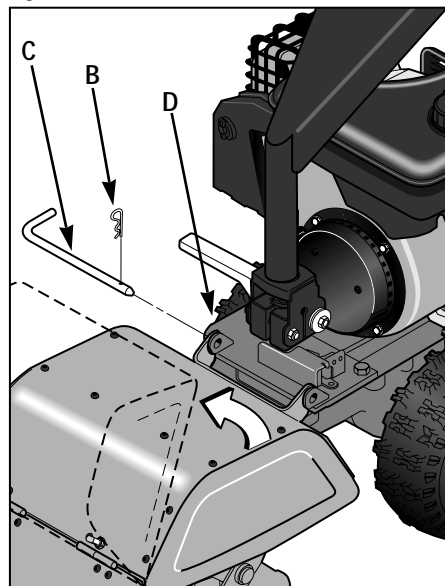

Fig. 4-7
6. Remove the hair pin clip (B, Fig. 4-7) from the hood release pin (C, Fig. 4-7). Slide the hood release pin out of the hood bracket (D, Fig. 4-7).
7. Lift up the hood flap and tilt the tine hood backward so the bracket at the rear of the hood disengages from the transmission. Lift the hood assembly off and put it aside. Refer to Fig. 4-7. Keep the hair pin clip and hood release pin installed on the hood at all times to prevent their loss. Reconnect the spark plug wire securely.
2. Replace the hood by first engaging the rear hood bracket on the pin at the end of the transmission (see Fig. 4-7). Connect the front of the hood to the handlebar base by aligning the two brackets (offset the hood brackets to the left of the base brackets), then insert the hood release pin and hair pin clip (see Fig. 4-7).